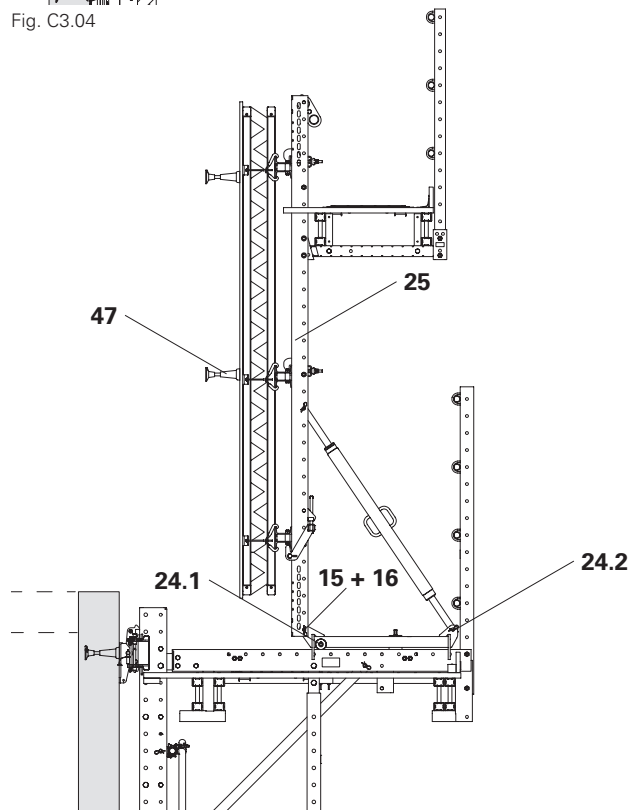

Fig. C3.05
4. Fit the strongback (25) onto the carriage (24.1) with 1 filler pin \varnothing 21 x 120 (15) and cotter pin 4/1 (16). The crane continues to carry the load.
7. Fit the leading tie (47). (Fig. C3.05)